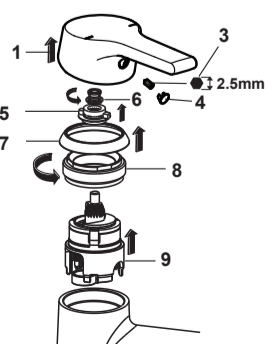

Figure 5 Single lever cartridge assembly B0165
Refer to Figure 5. Lift off block cap (4).
Remove the handle as previously described and pull off shroud. (Figure 5)